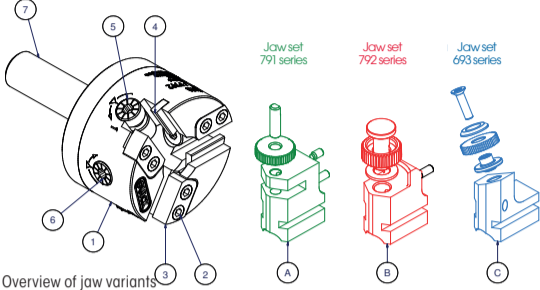

Fig. 1: Overview of jaw variants
Please specify the tool number and the corresponding position number (see Figure 1).
Produce a chamfer (30° – 45°) on the workpiece with a minimum width corresponding to half of the pitch of the knurling wheel on the start of the workpiece. Tool shank (Fig. 1, Pos. 7) is not included in the scope of supply. The concentricity of the workpiece must be max. 0.03 mm.
Various jaws are pre-assembled depending on the tool type. Conversion between the cutting process (C693 series), forming (F791 series) and knurling up to a shoulder (F792 series) can take place by using different jaw sets. These variants are shown in Figure 1 (A – C).
If it is necessary to change jaw sets, first loosen the clamping screws (Fig. 1, Pos. 2) of the clamping segment (Fig. 1, Pos. 3). Then turn the spindles (Fig. 1, Pos. 5) clockwise (CW) until the individual knurl holders (Fig. 1, Pos. A – C) can be removed.
Slide the knurl holders (Fig. 1, Pos. A – C) individually into the guide slots of the base body (Fig. 1, Pos. 1) and move the jaws together by means of spindles which are turned counterclockwise (CCW).
Note: In the installed state, the spindle aligned to the machine side can be reached through the passage (Fig. 1, Pos. 6).
Setting of the profile depth takes place after the centring of the knurl holders. This depends on the knurling process, pitch, profile and material displacement to be carried out. For this purpose, turn the spindles of the knurl holders (Fig. 1, Pos. 5) clockwise (CW). One spindle mark corresponds to 0.1 mm, referring to the diameter.